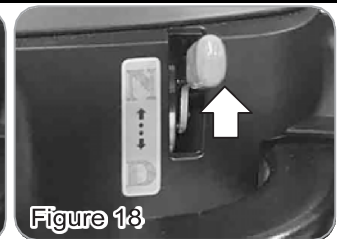

Figure 18
- When lever is Neutral (N) position, the scooter can be moved manually without power (Figure 18).